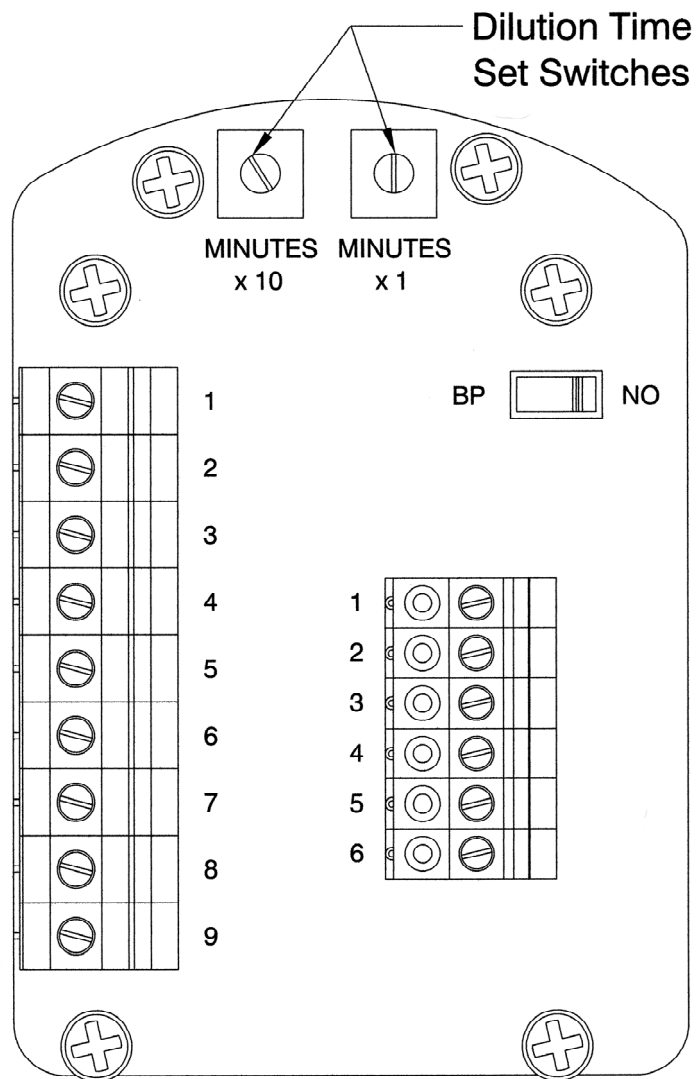

Figure 2
With enclosure door open to access the CYCLOPS X – Purge Controller, SM Version set automatic dilution time cycle to least five (5) times the volume of free space in the electronics enclosure is exchanged before power is automatically applied to the electrical equipment from the CYCLOPS X – Purge Controller, SM Version. **Refer to Figure 2 for location and details of dilution time switches in CYCLOPS X – Purge Controller, SM Version.**